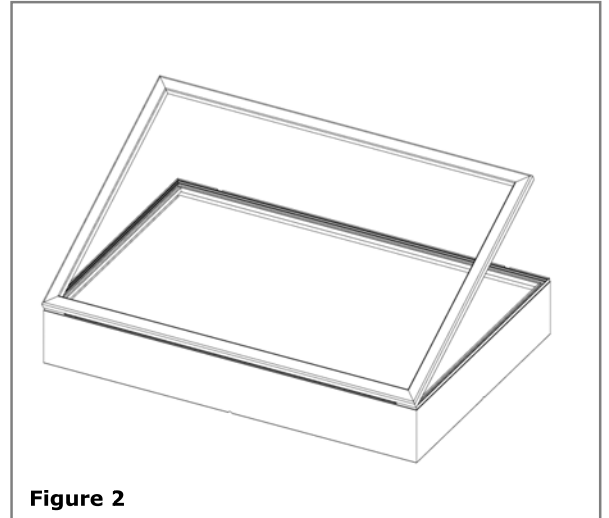

Figure 2
1. To open unit, place screwdriver blade in the top slot and gently twist or grip the middle of the frame section and simply pull to snap open the frame. **See Figure 2.**